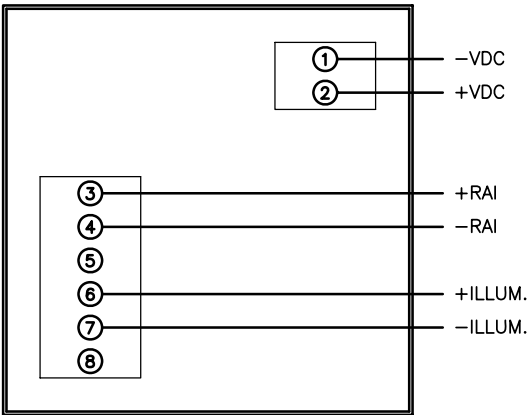

FIGURE 3
3. FIGURE 3 ILLUSTRATES A METHOD FOR DIMMER CONNECTION THAT USES AN EXTERNAL VOLTAGE FOR ILLUMINATION. THE REGULATION RANGE FROM DARKNESS TO FULL ILLUMINATION IS FROM 5-30 VDC. THE CONSUMPTION IS 30 mA @ 30 VDC.